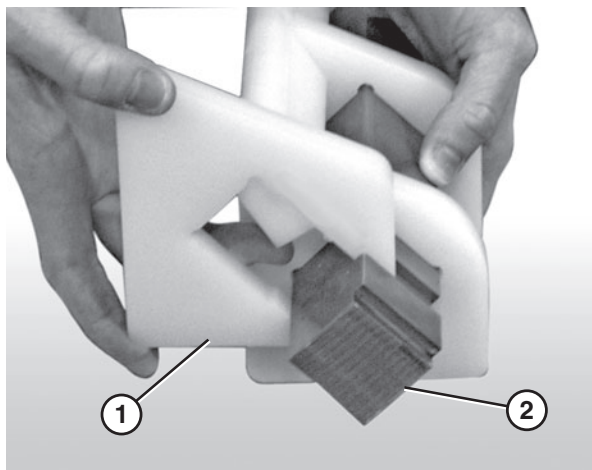

Figure 74
3. Attach the nose bar tracking pucks (**Figure 74, item 1**) to the nose bar drive post (**Figure 74, item 2**).